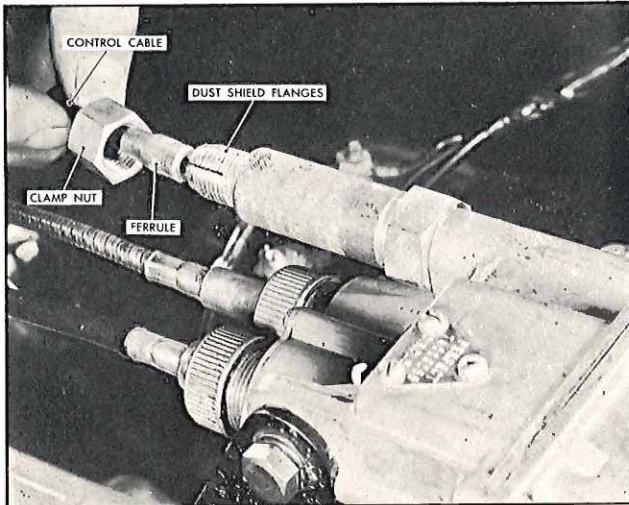

Fig. 12—Removing Ferrule
3. After removing clamp nut, pull control cable out of dust shield until ferrule at end of cable is free from bottom of dust shield (fig. 12). If ferrule is tight in the dust shield, carefully